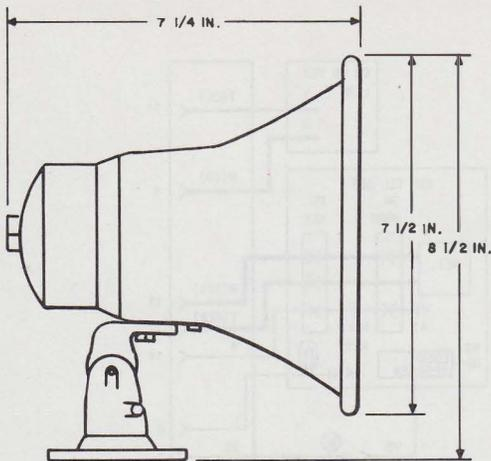

Fig. 11—KS-16846, List 2 Loudspeaker
2.15 The KS-16846, L2 loudspeaker (Fig. 11) is an outdoor speaker used for paging. It is 7-1/2 inches in diameter, 7 inches deep, and weighs 3-1/4 pounds. The loudspeaker is equipped with a swivel mounting bracket having three holes in the outer rim for mounting on a flat surface. The loudspeaker will also fasten to a 1/2-inch pipe. Pigtail leads are provided for connections. Nominal frequency response of the loudspeaker is 400 to 13,000 Hz. The KS-16846, L2 loudspeaker is *not* arranged for volume control.